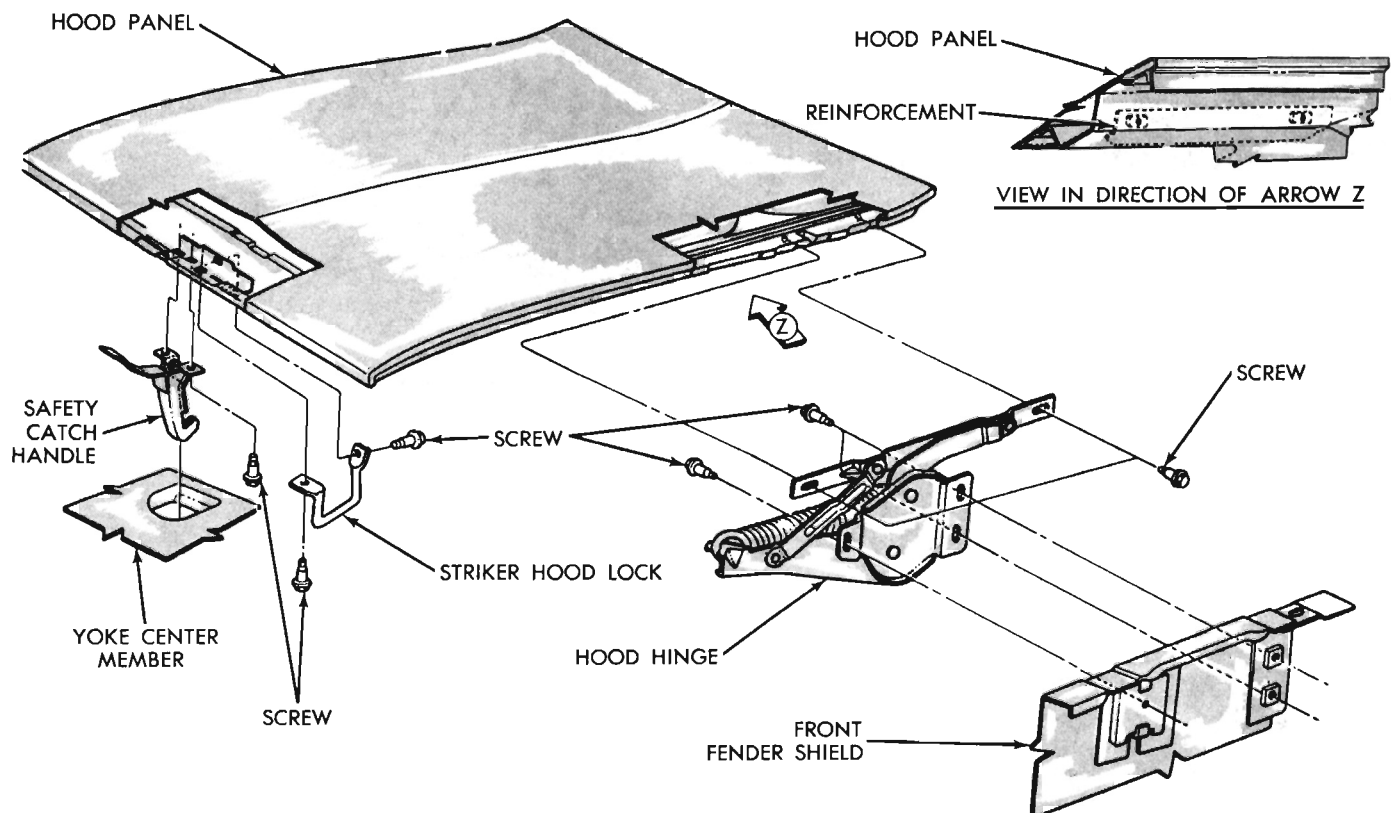

Fig. 7 - Hood Panel-Hinge and Latch Striker
(1) Place a protective covering over cowl and fender area.
(2) Mark outline of hinges on hood to aid in installation.
(3) With an assistant, remove hinge-to-hood bolts (Fig. 7) and remove hood assembly. **Use care not to permit hood to slide rearward and damage painted surfaces of the cowl and fender areas.**
(1) With an assistant, position hood on hinges and install bolts. Do not tighten.
(2) Align scribe markings on hood with hinge and tighten screws to hold in position.
(3) Close hood and inspect alignment.
(4) Adjust alignment (Figs. 7 and 8), tighten bolts and remove protective coverings.